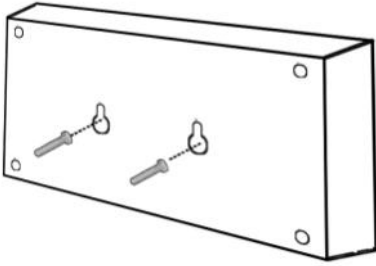

Figure 1. Mounting Hole Location
3. **WALL MOUNT:** Two keyhole slots on the back of the unit allow you to attach the unit using two (2) screws. See *figure 1*.
4. Install two(2) screws 1 1/2" apart, leaving 1/4" of screw head from mounting surface.